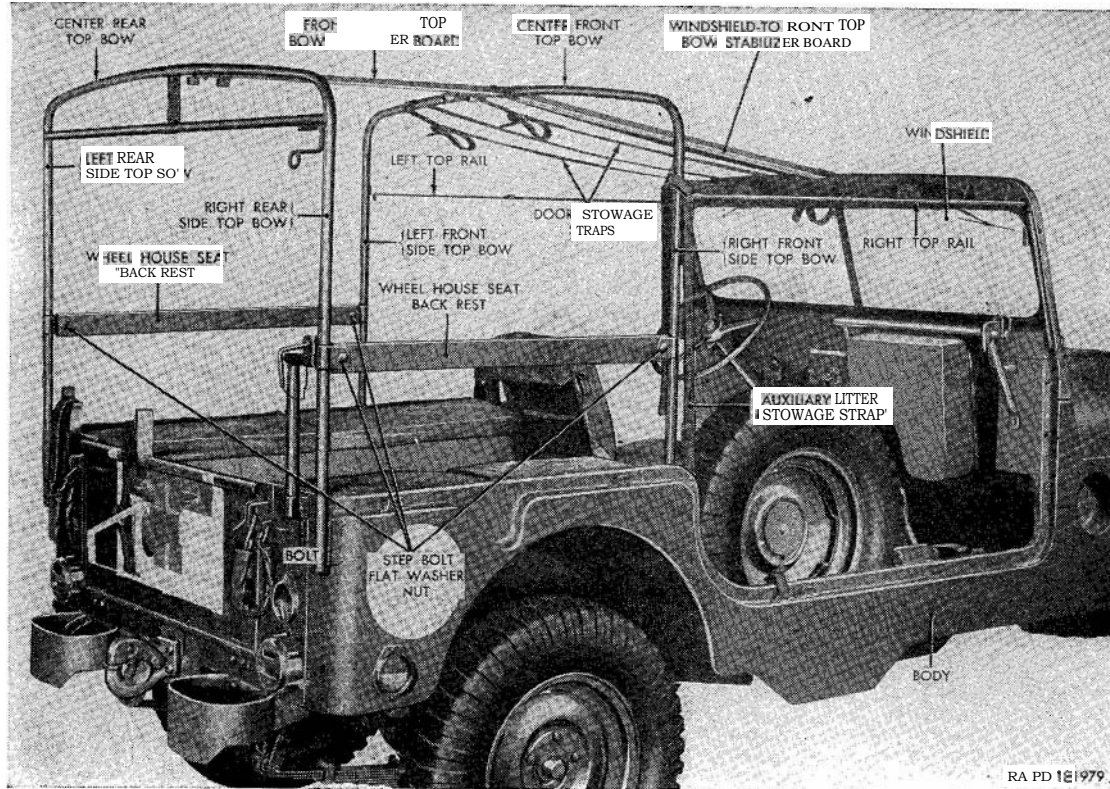

Figure 198. Side and center top bows and side rails—installed.
- (1) Position the top cover with rear curtain on top of the hood so that cover is upside down and with its front end nearest windshield.
- (2) Beginning at either side of the windshield, insert the cover front bead into the top retainer edge at the top of the windshield, and slide the bead into retainer until bead is centered in place.
- (3) Flip the top cover over the top of the vehicle and over the center rear top bow.
- (4) Secure the rear curtain of the top cover to the tail gate and rear body panel by fastening the four **holddown** straps on the curtain to the footman loops on the tailgate and body panel.
- (5) Position the side flaps at the front of the top cover around the right and left top rails and secure each flap with three turn buttons.
- (6) Flip the end flaps at the rear of the top cover forward and secure each flap to the top cover with the turn button provided on the side of the cover.
*g. Top Rails Removal* (fig. 198).
- (1) Withdraw the pin, chained to the right top rail, from the hole at the rail front end and pull the end free of the bracket on the windshield.
- (2) Lift the rail rear end out of the bracket hole at the top of the right front side top bow, and remove the rail from the vehicle. Proceed in a similar manner to remove the left top rail from the vehicle.
*h. Top Rails Installation* (fig. 198).
- (1) Insert the right top rail end (without hole) through the bracket hole at the top of the right front side top bow.
- (2) Insert the other rail end through the bracket hole at the top of the windshield, and lock the rail in place by inserting the pin, chained to the rail, through the hole at the rail end. Proceed in a similar manner to install the left top rail on the left side of the vehicle.
i. *Side and Center Top Bows Removal* (fig. 198).
- (1) Remove the two nuts, flat washers, and step bolts securing the front-to-rear top bow stabilizer board to the center front and rear top bows, and remove the board from the vehicle.
- (2) Remove the two nuts, flat washers, and step bolts securing the windshield-to-front top bow stabilizer board to the windshield and center front top bow, and remove the board from the vehicle.
- (3) Unfasten the two door stowage straps on the center front top bows from the windshield brackets. Lift up on the front top bow until its ends are clear of the openings at the tops of the right and left front side top bows, and remove the front top bow from the vehicle.
- (4) Lift up on the center rear top bow until ends are clear of the openings at the tops of the right and left rear side top bows, and remove the rear top bows from the vehicle.
- (5) Remove the two nuts, flat washers, and step bolts securing each of the two wheel house seat back rests to the front and rear side top bows, and remove the back rests from the vehicle.
- (6) Lift the left front side top bow, left rear side top bow, and front side top bow out of the bow sockets on the body panels.
- (7) Remove the two bolts and lockwashers securing the right rear side top bow bracket to the body rear panel. Lift the bow from the bow socket on the right rear cover of the body and remove bow from vehicle.
j. *Side and Center Top Bows Installation* (fig. 198).
- (1) Insert the lower end of the right rear side top bow, with the bracket end down, into the bow socket at the right rear corner of the body. Secure the bracket at the lower end of the bow to the body rear panel with two  $\frac{5}{16}$ -inch plain washers,  $\frac{5}{16}$ -inch lockwashers, and  $\frac{3}{4}$  x  $\frac{3}{4}$  bolts.
- (2) Insert the end of the right front side top bow into the bow socket in front of the right wheel house, making sure not to insert the end that has the auxiliary litter stowage strap.
- (3) Insert the left rear side top bow into the bow socket at the left rear corner of the body.
- (4) Insert the left front side top bow into the bow socket on the body left side panel at the rear of the driver's seat.
- (5) Position one wheel house seat back rest on the inner sides of the brackets on the right front and rear side top bows, and
- (6) Insert the center rear top bow ends into the right and left rear side top bow tops, making sure that bracket at center of bow points forward.
- (7) Insert the center front top bow ends into the right and left front side top bow tops, making sure that the door stowage straps are at the left. Fasten the straps to the two brackets on the windshield.
- (8) Position the windshield-to-front top bow stabilizer board in place beneath the bracket at the top center of the windshield and the bracket at the front of the center front top bow, secure in place with two  $\frac{3}{16} \times \frac{7}{8}$  step bolts,  $\frac{3}{16}$ -inch flat washers, and  $\frac{3}{16}$ -inch nuts, making sure to insert bolts from the top.
- (9) Position the front-to-rear top bow stabilizer board beneath the brackets on the center front top bow and center rear top bow, and secure in place with two  $\frac{3}{16} \times \frac{7}{8}$  step bolts,  $\frac{5}{16}$ -inch flat washers, and  $\frac{3}{16}$ -inch nuts, making sure that the plasma container hooks point to the left of the vehicle.